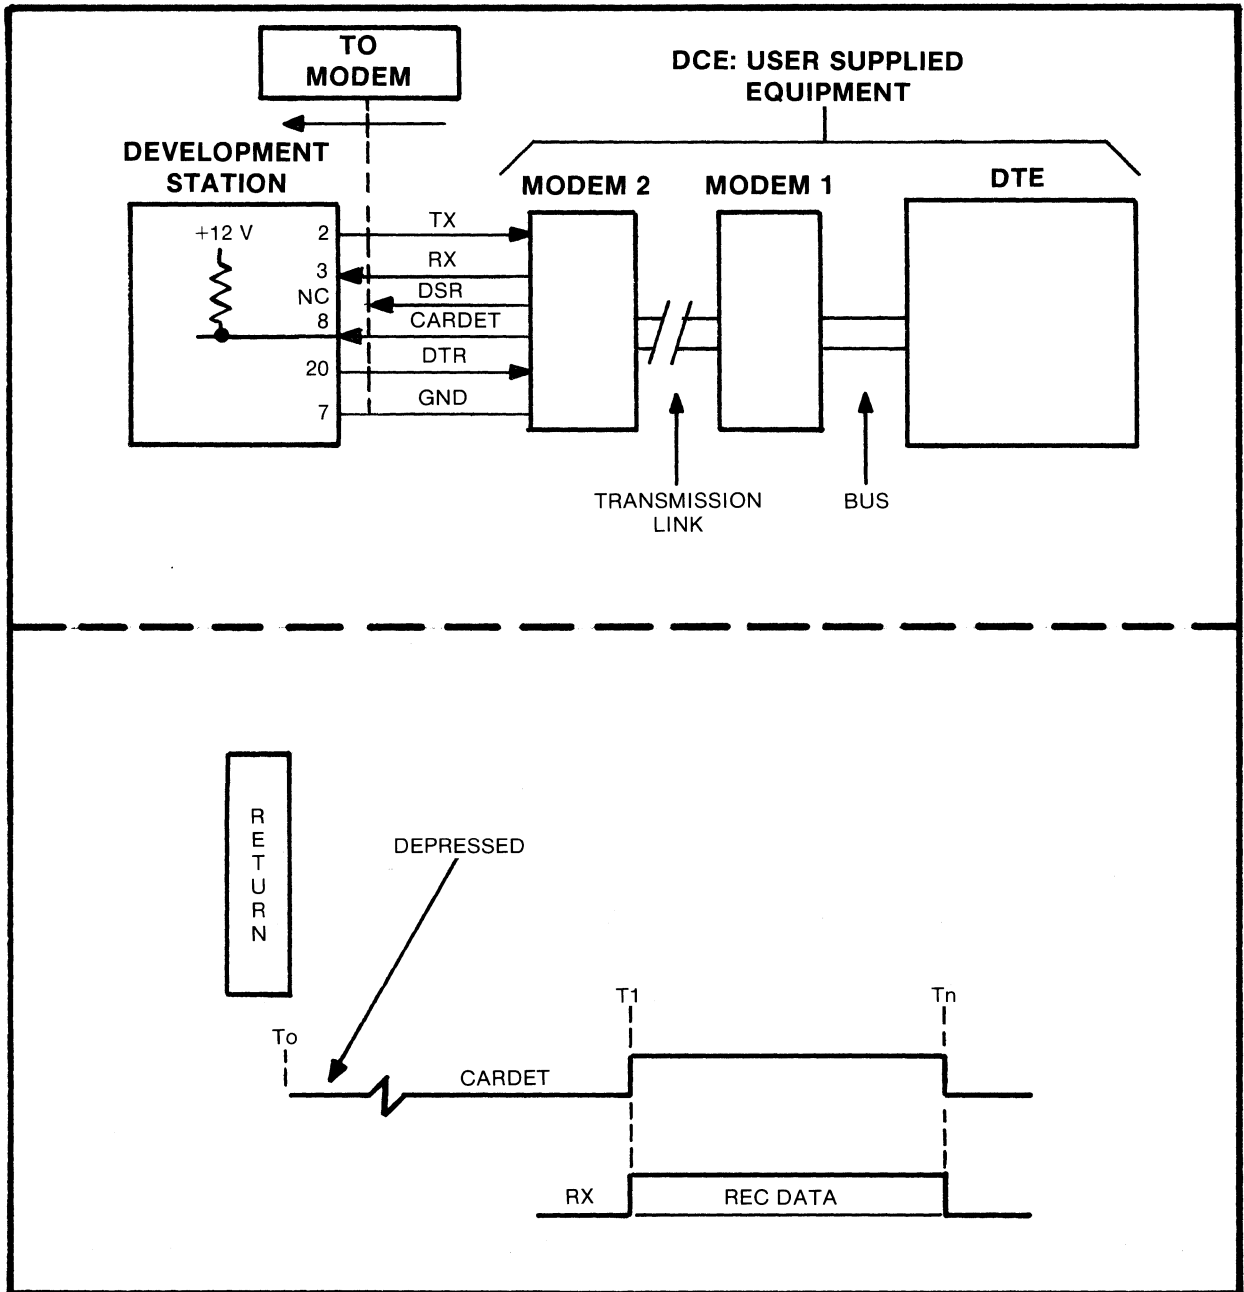

Figure 8-8. Terminal as Listener
2. Mainframe as "terminal listener" (figure 8-8)